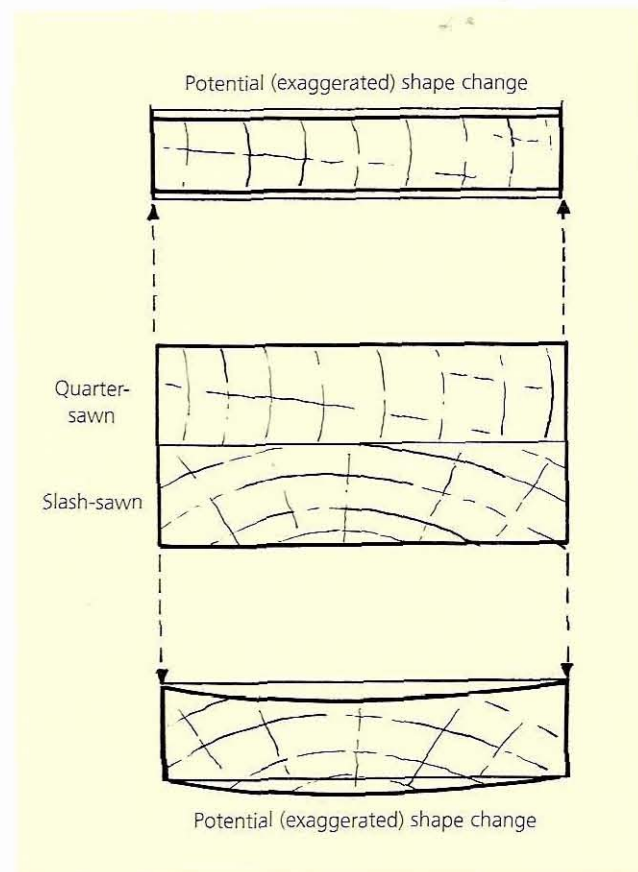

Fig 6.62 A joint using different cuts from the tree may give rise to stress problems because the individual pieces move differently
- when different cuts from the same tree are used, for example mixing slash-sawn with quarter-sawn wood (Fig 6.62)